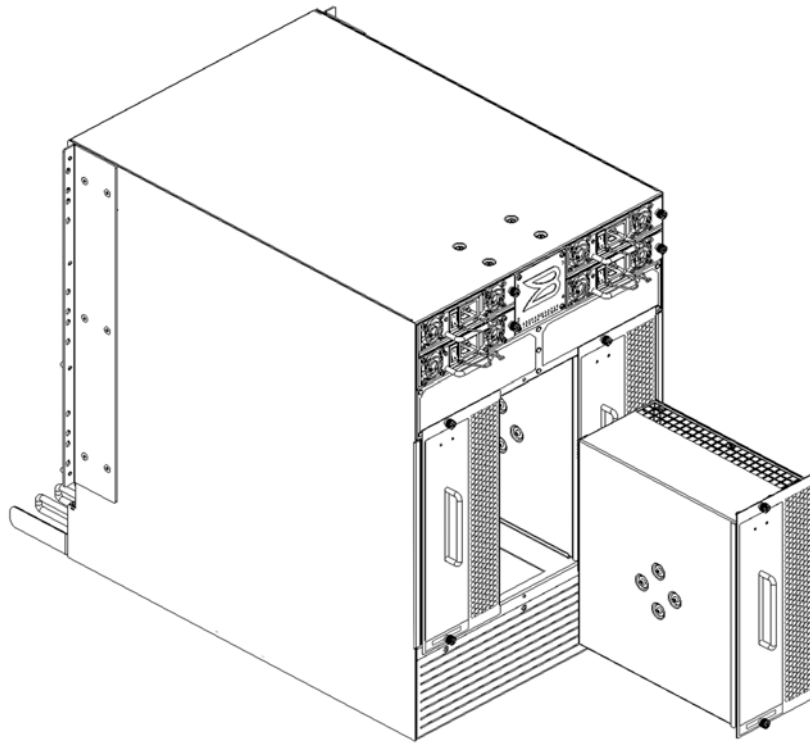
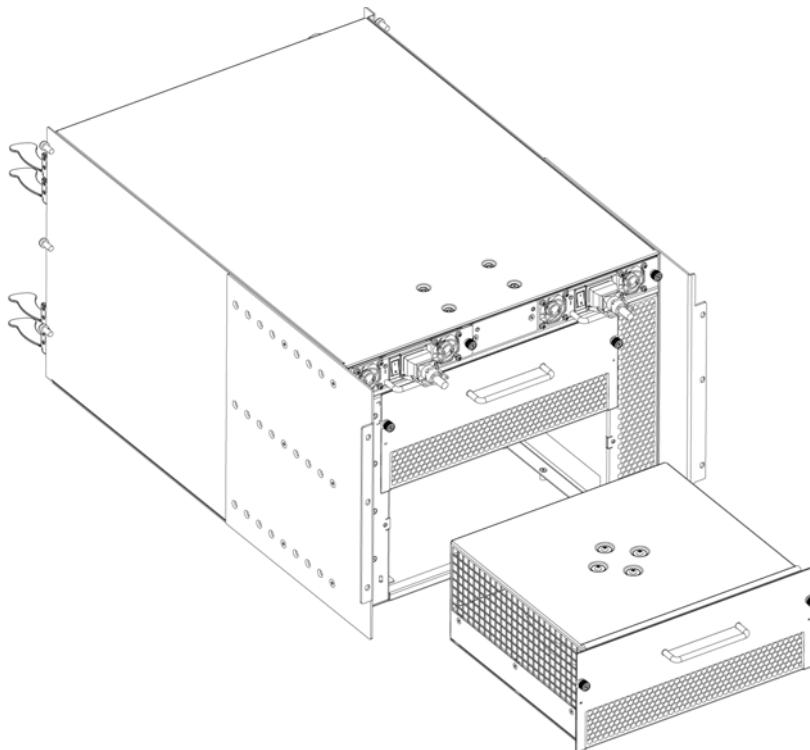

FIGURE 1 DCX blower assembly
FIGURE 2 DCX-4S blower assembly
2. Use the screwdriver to loosen the captive screws for the blower assembly (Figure 1 or Figure 2.) On the DCX the screws are at the top and bottom of the assembly and on the DCX-4S they are on the left and right.